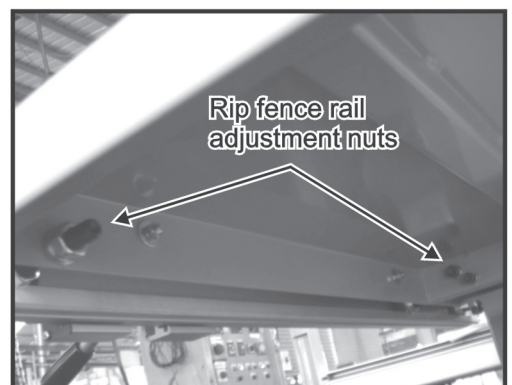

Fig. 13
9. Adjust the height of the rip fence rail, then tighten all of the nuts against the table showed. (Fig. 13)